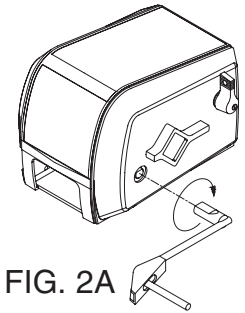

FIG. 2A
- Insert the emergency handle so it completely engages with the drive shaft. Pull in strap by turning the handle in the clockwise direction (See Fig. 2A). To make cranking easier, the clutch handle can be placed in the "free wheel" position while holding onto the emergency crank handle.